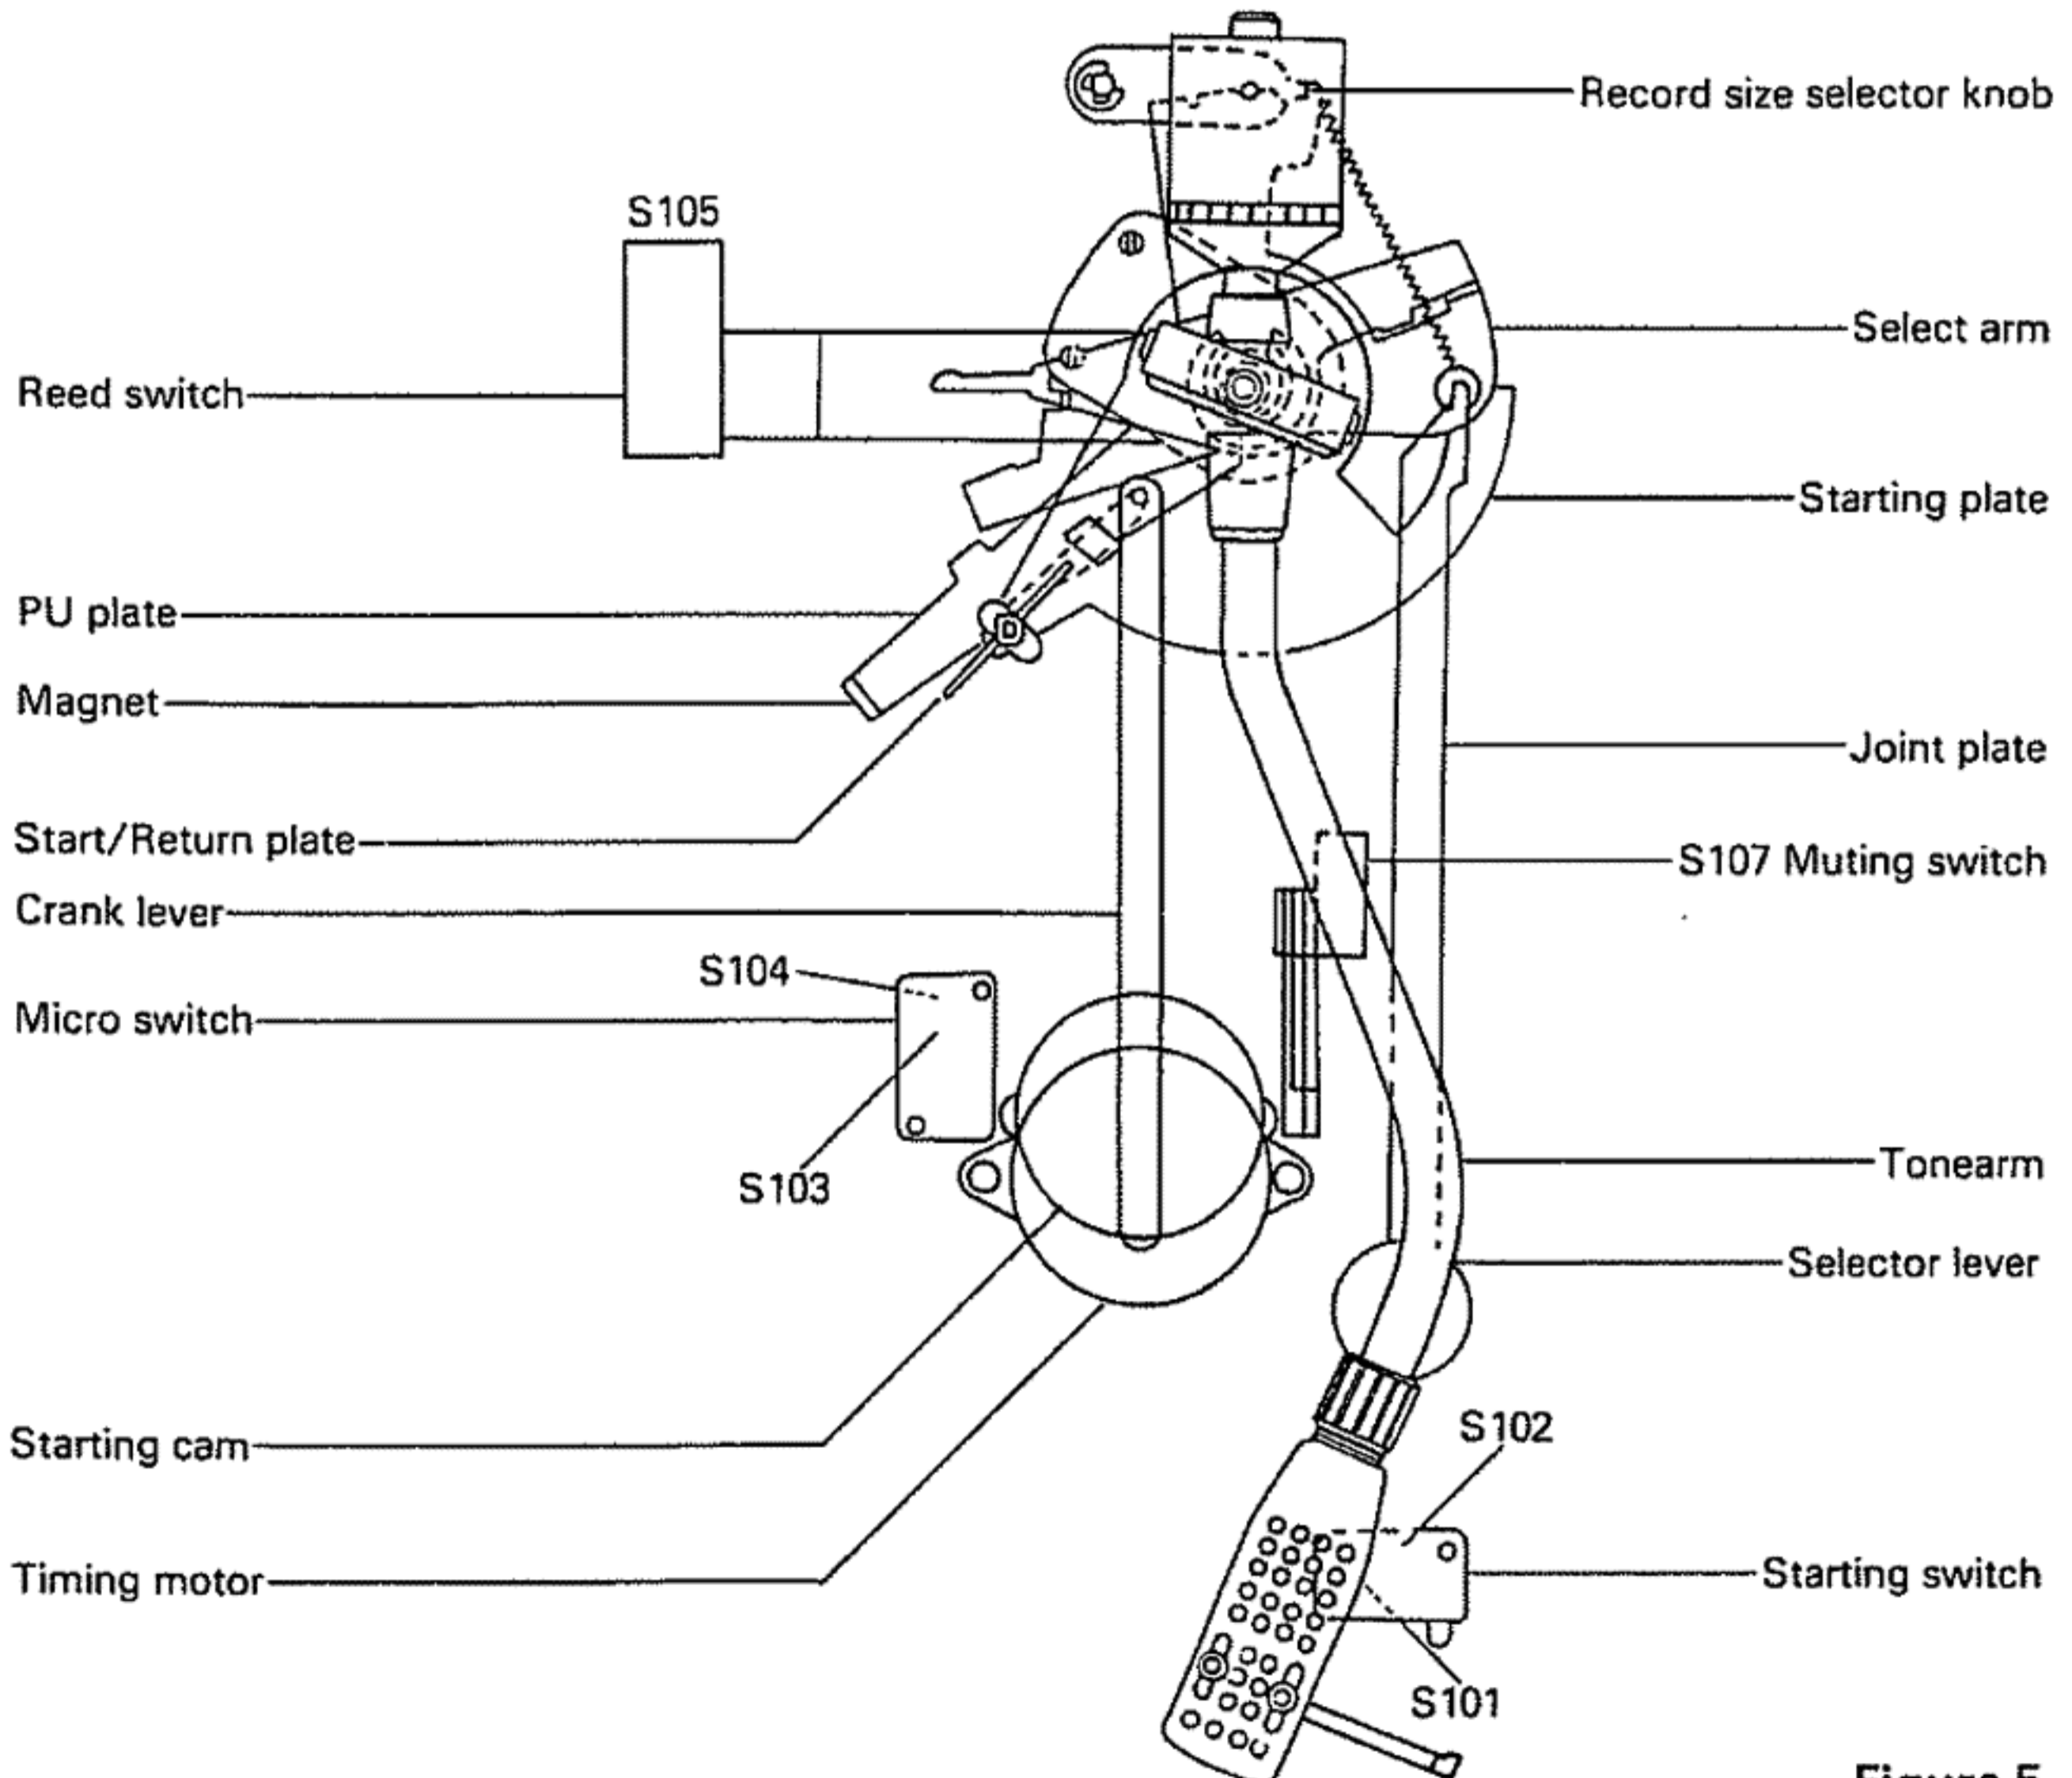

Figure 5
- 4) When PU Plate comes to the position of Select Arm, the Select Arm stops the PU Plate and the Start/Return Plate will turn over and remove pressure from the PU plate. Now the Tonearm has reached the lead-in groove. The lead-in position can be changed by the Record Size Selector. Figure 5 shows the position for 10" records.